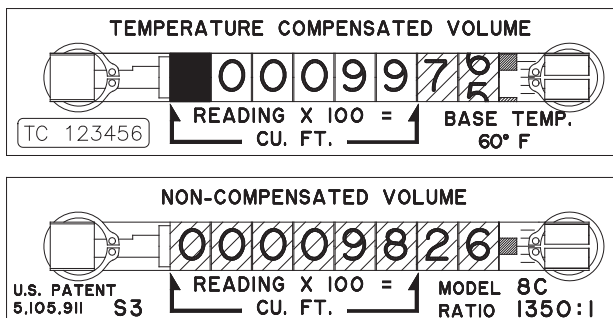

Figure 25 - A reading of 9756 would be the number recorded for TC unit operational check.
3. Observe the Temperature Compensated volume odometer. When the odometer stops turning after an intermittent compensating cycle, record the last 3-digit reading and the value indicated by the graduated marks on the test wheel as the "Counts, Initial" (**Ci**) indicated on the odometer. This is read as a whole number. (Refer to the Sample Counter Reading in *Figure 25*.)
Example: Assume the gas temperature is 53.0°F, and from *Figure 25*, the initial odometer reading (**Ci**) = 9756. We then allow the odometer to cycle 25 times and record the final reading. We will further assume the final odometer reading (**Cf**) = 2295.